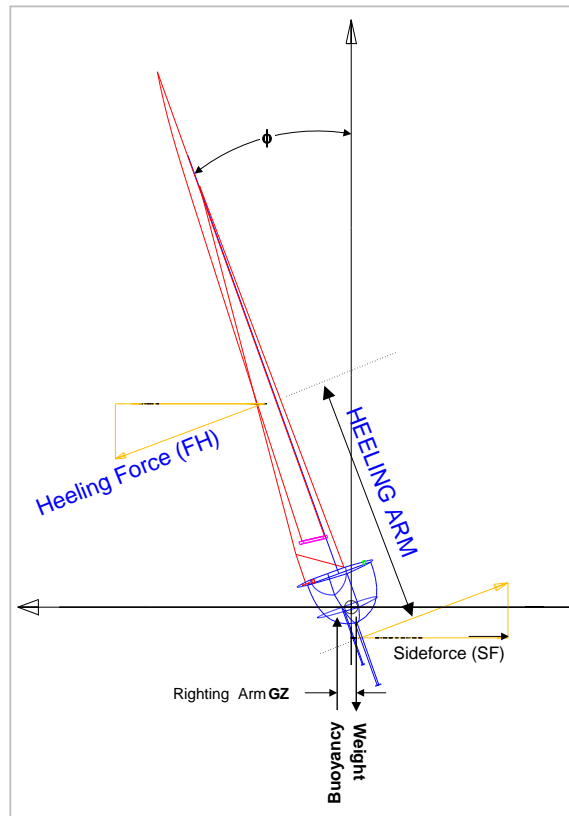

Figure 3 - Roll Moment Equilibrium
- 2) The heeling moment produced by the couple between the aerodynamic and hydrodynamic Heeling Force equals the hull righting moment, as shown in Figure 3.